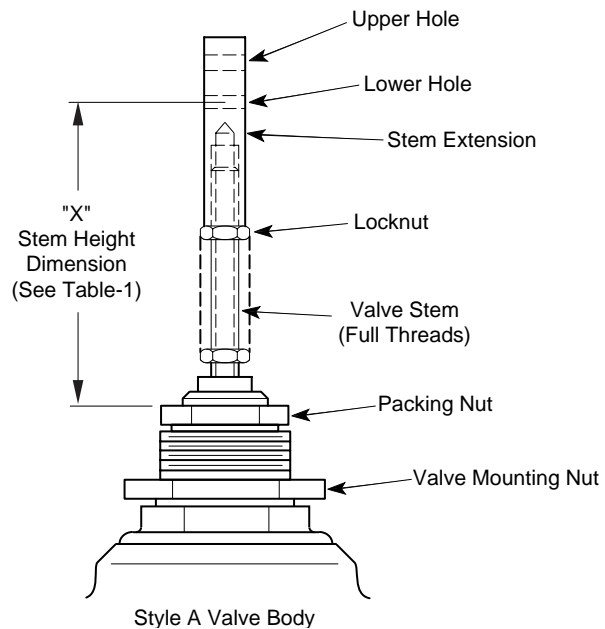
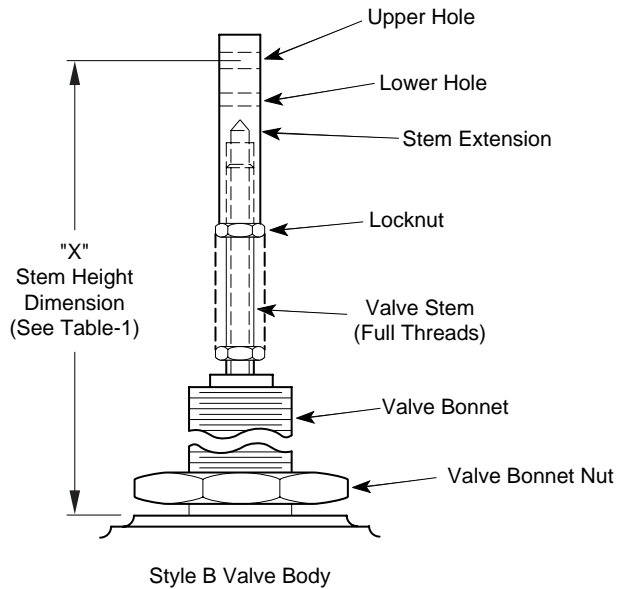
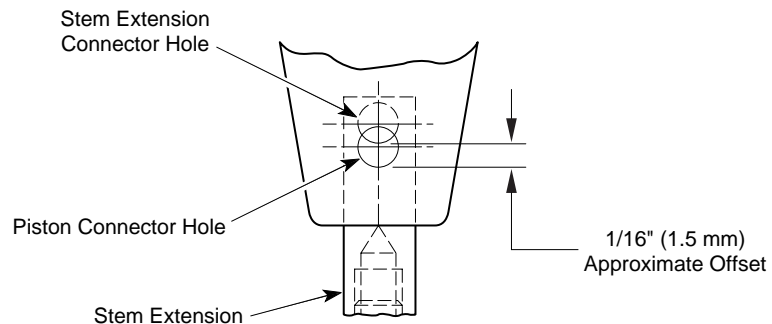

Figure-1 Adjust Stem Extension for Style A Valve Bodies.
Figure-2 Adjust Stem Extension for Style B Valve Bodies.
Figure-3 Piston/Extension Hole Alignment for Normally Open 2-Way Valves with 20 psig (138 kPa) Applied.
Refer to Figure-1, Figure-2, Figure-3, Figure-4, Figure-5.
3. See Figure-1 and Figure-2 to identify the valve as a Style A or Style B valve body, then proceed as follows:
6. See Figure-1 and Figure-2 to identify the valve as a Style A or Style B valve body, then proceed as follows:
8. Pressurize the actuator to 20 psig (138 kPa) and check the relative positions of the connector holes in the actuator piston and stem extension. The actuator piston connector hole should be 1/16" to 1/8" (1.5 to 3 mm) below the stem extension connector hole, to assure proper close-off (see Figure-3). If the connector hole offset is not met, adjust the position of the stem extension as follows:
3. For Style A valve bodies only, loosen the valve mounting nut (see Figure-1).
4. For Style B valve bodies only, loosen the valve bonnet nut (see Figure-2).